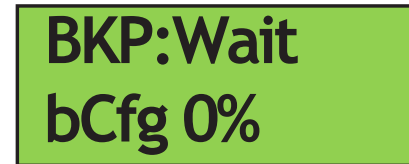

Figure 3: Back-up in progress
- Use the joystick to select **Update** then **Backup** and press ENTER. The backup is in progress, see Figure 3.